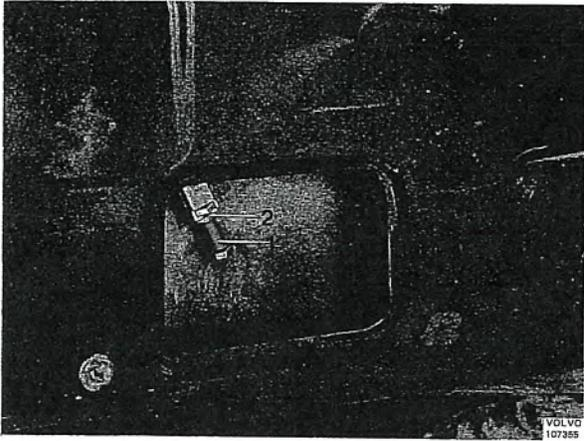

Fig. 8-29. Adjusting mechanism for winding window upper end position
5. Adjust the window so that it fits properly against the sealing strip in the body. Check that the upper location of the window corresponds to the location of the body to the ventilation window. This end position is adjusted by means of the screw (1, Fig. 8-29) which is released by undoing the lock nut (2). The end position of the window is pushed up or down by screwing in or out the screw (1).